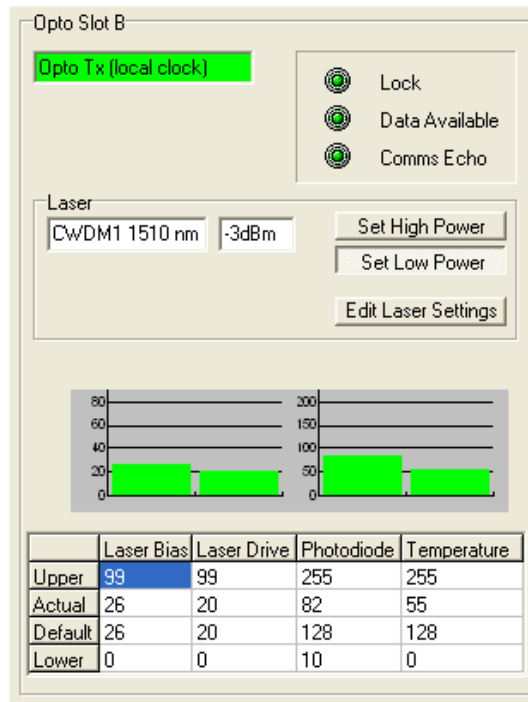

Figure 1: Laser settings using MUXcomm
1. Click on 'Status Monitor' to read the laser bias and drive settings in the Opto Slot B section. These are displayed within a table under 'Actual' (see figure 1 below). Note the laser wavelength and power description e.g. CWDM1 1510nm, -3dBm.